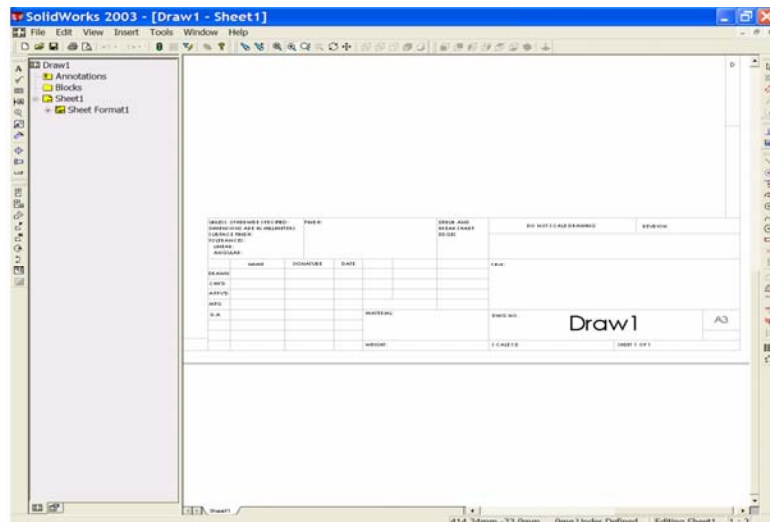

Figure 4
- Use the 'Zoom to Area'  button from the View Toolbar to examine the border contents. Left click the 'Zoom to Area' button and draw a window around the 'Title block' of the border. To do this, place the cursor symbol at the upper left corner of the Title Block, left click and **HOLD THE LEFT BUTTON DOWN**. Drag the cursor symbol to the lower right corner of the Title Block to draw a green window. Release the mouse button and the contents of the window are scaled to fill the screen. See Figure 4. Select the 'Zoom to Area' button once again to end the command.